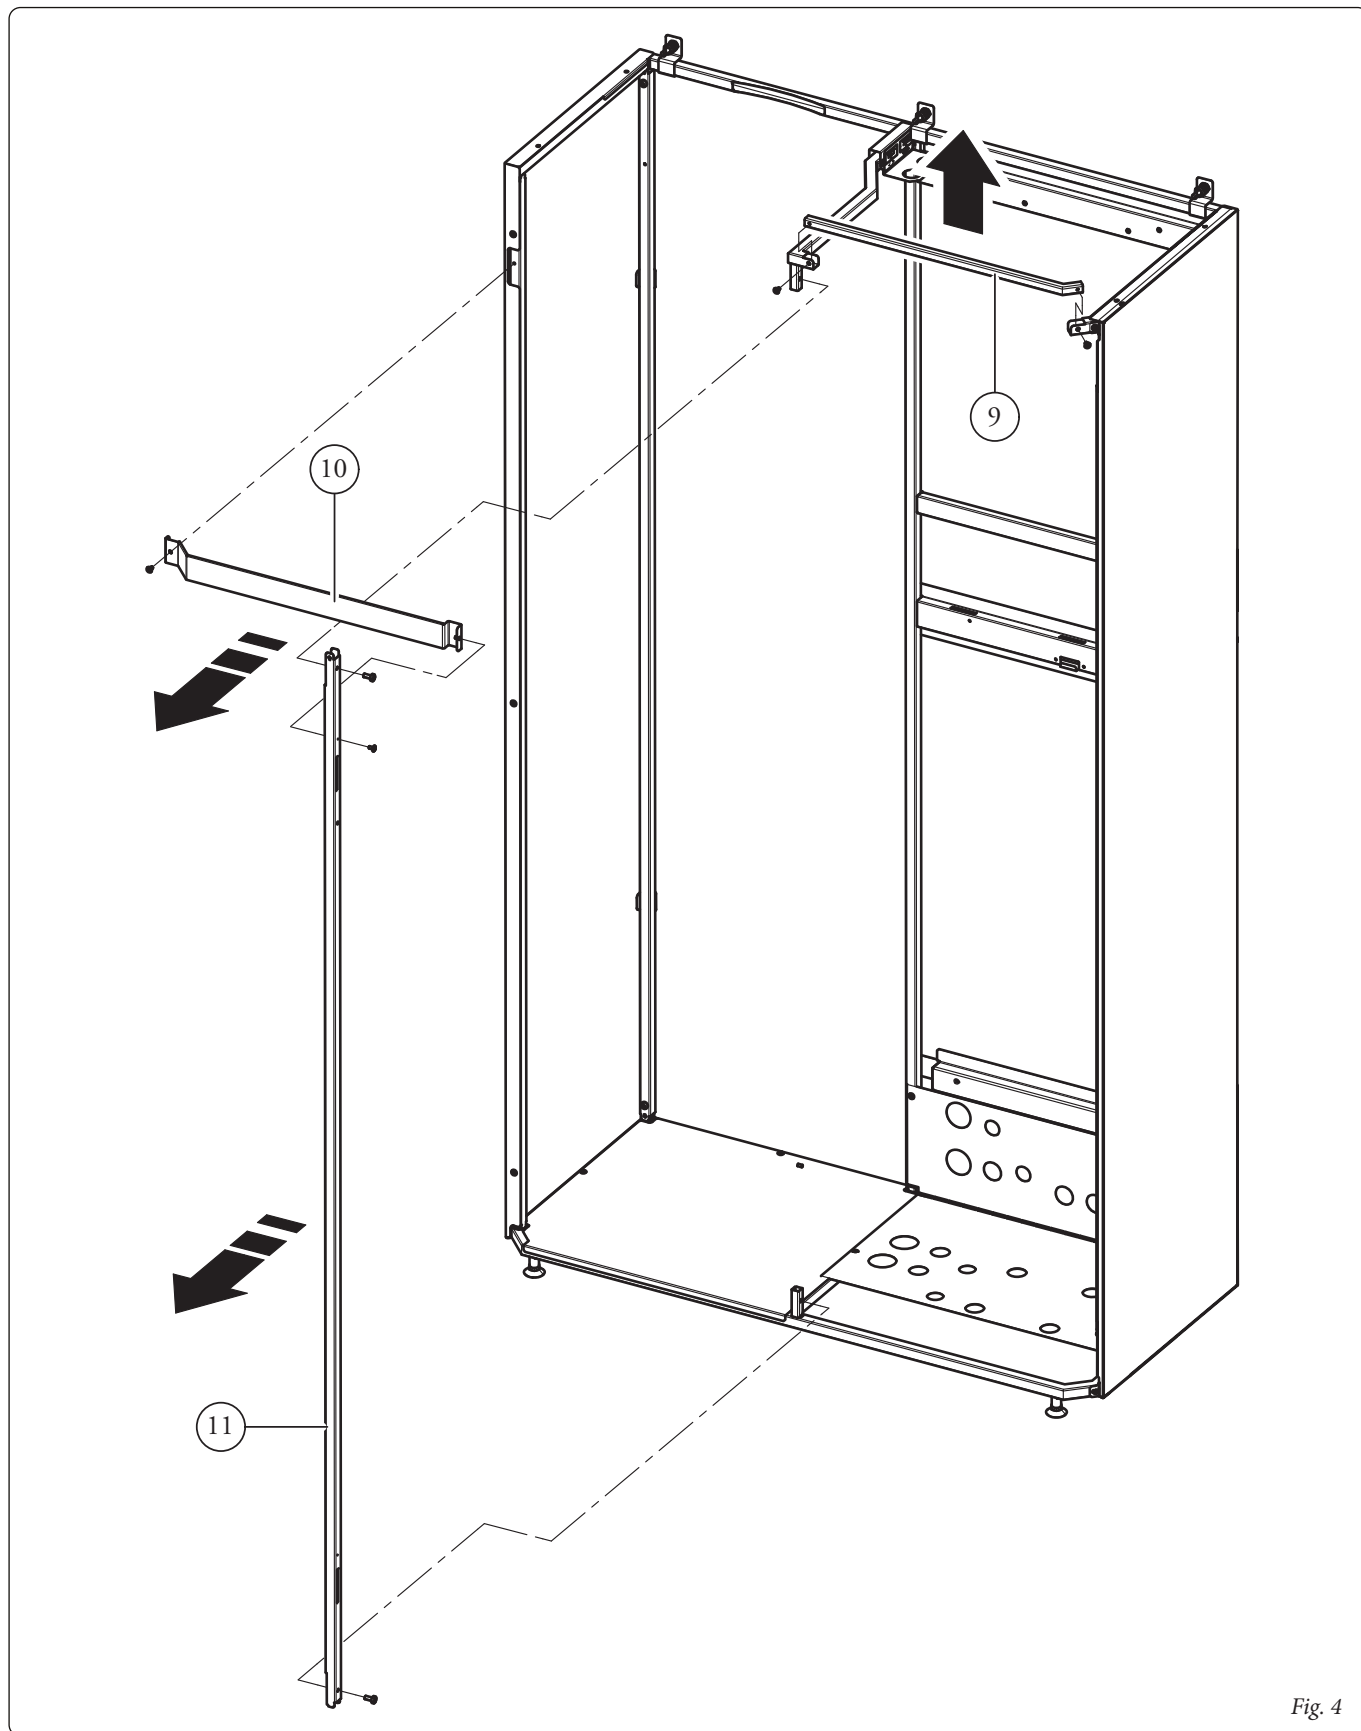

Fig. 4
In order to easily install the products inside the Super Trio Domus Container, it is recommended to temporarily remove the appliance front metal-sheet plate (9), the storage tank unit front metal-sheet plate (10) and the front pipe (11) (Fig. 4). Carry out the operations in inverse order to reassemble the previously removed parts.